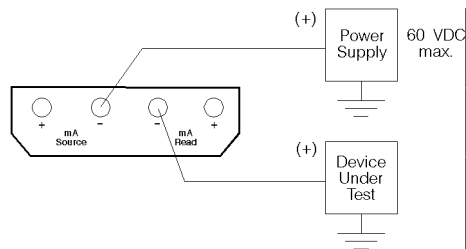

FIGURE 2 - CURRENT SIMULATE MODE
2. When operating in the current simulate mode, the CL260 acts like a two-wire transmitter controlling a current loop with an external voltage of up to 60 VDC as shown in Figure 2.